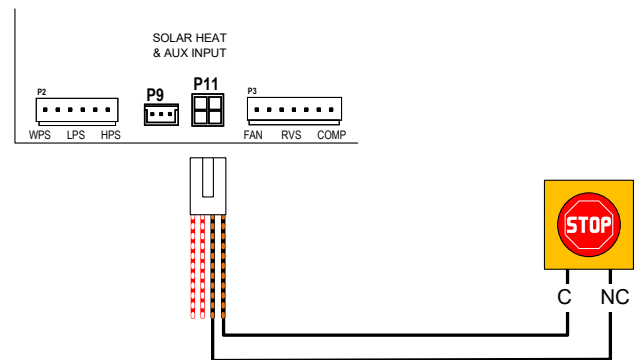

Figure 155. Auxiliary Input Wiring
2. Inside the heater's control box, connect the 2-wire cable to the control board terminal labeled "SOLAR" [P11] using the harness adapter labeled "Solar Temperature Sensor / Auxiliary Safety Input" supplied with the heater in the accessories bag. Make sure to use only the orange wire with black stripes to connect the external safety device. See Figure 155 for details.